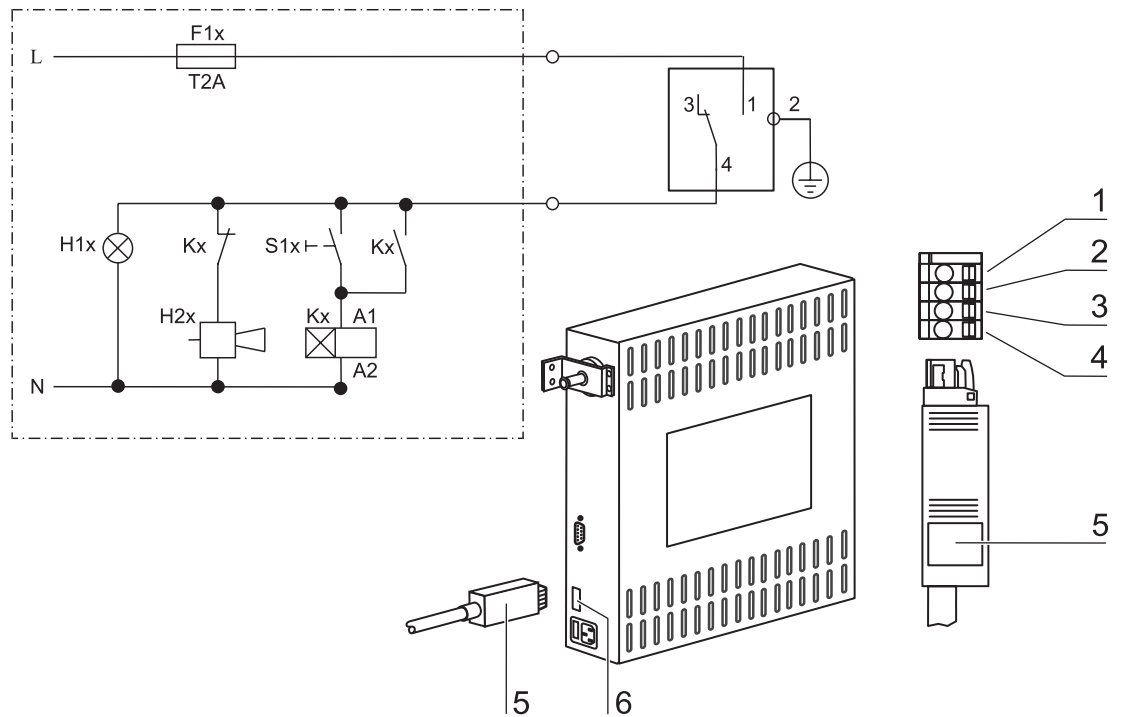

Fig. 17
**Fig. 17:** The connector [5] for the connecting cable is comprised in the scope of delivery. The values for the operating voltage of the external circuits and of the fusing of the alarm system are given in the table above.